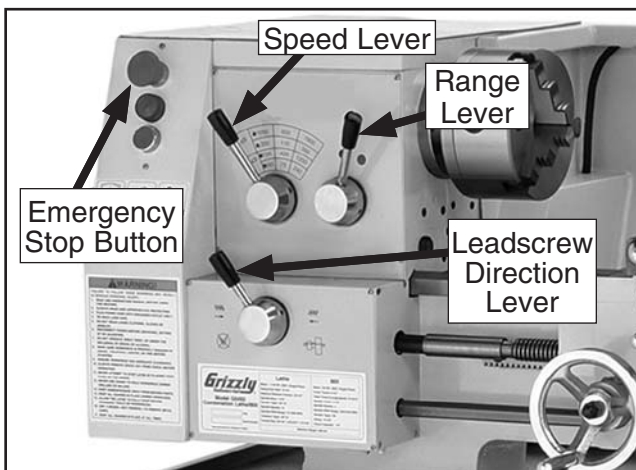

Figure 7. Headstock control levers.
3. Move the spindle speed lever to the 75 RPM position, the range lever to the red-dot position, and the lead screw lever to the neutral position as shown in **Figure 7**.
4. Rotate the red emergency stop button (**Figure 7**) clockwise so it pops to the outward position.